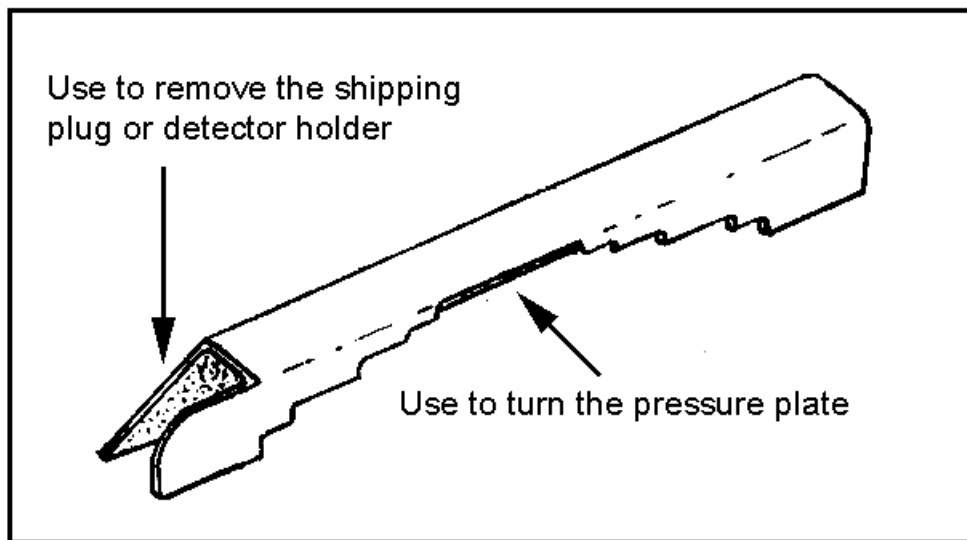

Figure 051-192-1109-1
- b. Use the M22 wrench to remove the M606 fuze from the fuze well by turning it counterclockwise a quarter turn (Figures 051-192-1109-1 and 051-192-1109-2).